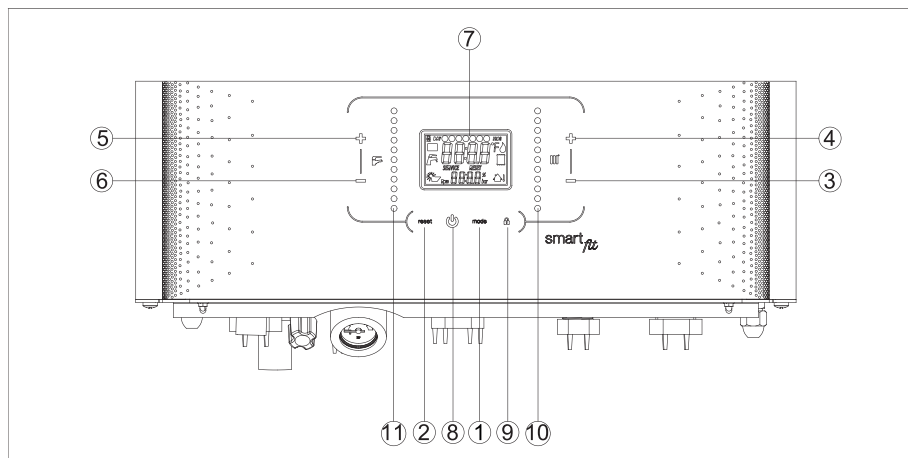

Figure 1. Control Panel
To operate your combi boiler in the “SUMMER” position, touch the button (1) (Figure 1) and see that only the tap symbol (🚰) lights up continuously on the display. In this position, the combi boiler will only operate for the domestic water system. The automatic ignition system will ignite the burner whenever domestic water is needed. The flame formation in the combustion chamber is indicated by (🔥) symbol on the display. When using domestic water, the tap symbol (🚰) on the display flashes.
To operate your combi boiler in the “WINTER” position, touch the button (1) (Figure 1) and see that the symbols of the tap (🚰) and radiator (🔥) light up continuously on the display. In this position, the combi boiler will work for domestic water and heater systems. The automatic ignition system will ignite the burner whenever domestic water or heating is needed. The flame formation in the combustion chamber is indicated by (🔥) symbol on the display. On the display; the tap symbol (🚰), flashes when using domestic water, and the radiator symbol (🔥) flashes when the heater water is needed.
To operate your combi boiler in the “HEATING ONLY” position, press button (1) (Figure 1) and see that only the radiator (🔥) symbol lights up continuously on the display.
- When the device is energized, “OFF” will be displayed on the display. By touching the mode button (1) (Figure 1), you can switch between SUMMER-WINTER-HEATING ONLY-OFF positions, respectively.
- Check that there are no flashing digits on the display (7) (Figure 1) (see error codes). If the display (7) shows the error E04, this indicates that there is no water in the combi boiler. In this case, fill the system with water as described in “Section 2.6”.
The heating temperature is set by the buttons (3) and (4) (Figure 1).
- The heater set temperature is decreased by touching the button (3).
- The heater set temperature is increased by touching the button (4).
- The heater set temperature is increased or decreased by sliding the button (10).
The domestic water temperature is set by buttons (5) and (6) (Figure 1).
- The hot domestic water set temperature is increased by touching button (5).
- The hot domestic water set temperature is decreased by touching button (6).
- The domestic water set temperature is increased or decreased by sliding the button (11).
This section contains a list of error codes that may occur on the combi boiler's display **(7)** (see Figure 1), the relevant symptoms, and the actions the user can take to reset the combi boiler.
- Turn the device off and on again using the button **(8)** (Figure 1) on the control panel. Wait for the system to ignite, if the error E01 appears again, turn the device off and on once again. This is done to ensure that the gas in the pipes reaches the device.